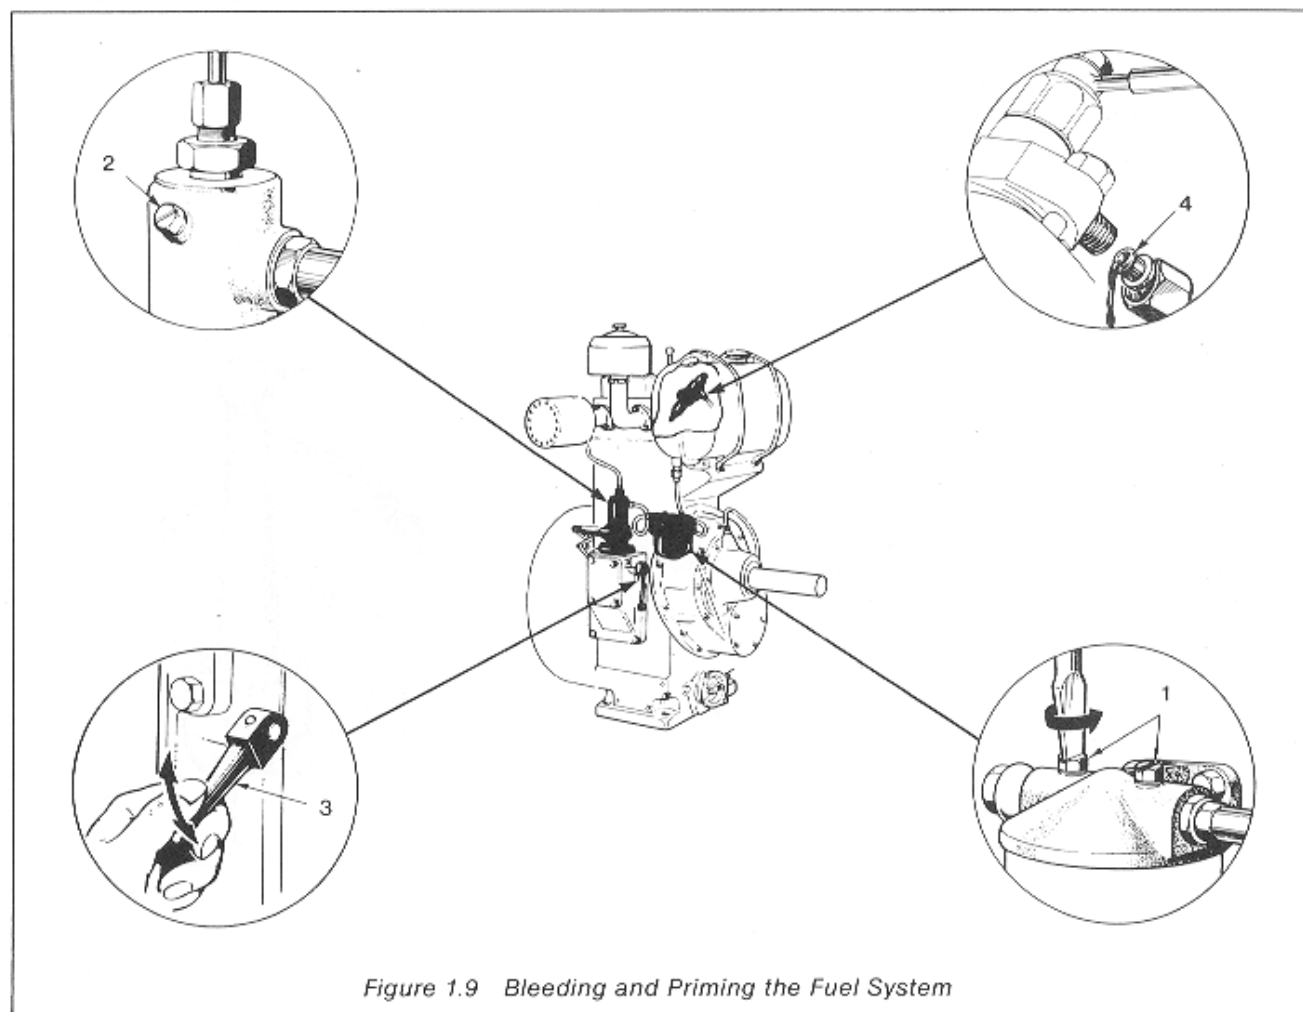

Figure 1.9 Bleeding and Priming the Fuel System
**1.42** To bleed and prime the fuel system, each cylinder (in the case of multi-cylinder engines) must be done in turn. The flywheel TDC mark must be set for the appropriate cylinder about half a revolution away from the pointer before top dead centre. If a fuel lift pump is fitted fuel will not flow unless the lift pump priming lever is operated. With reference to Figure 1.9 carry out the following procedure: